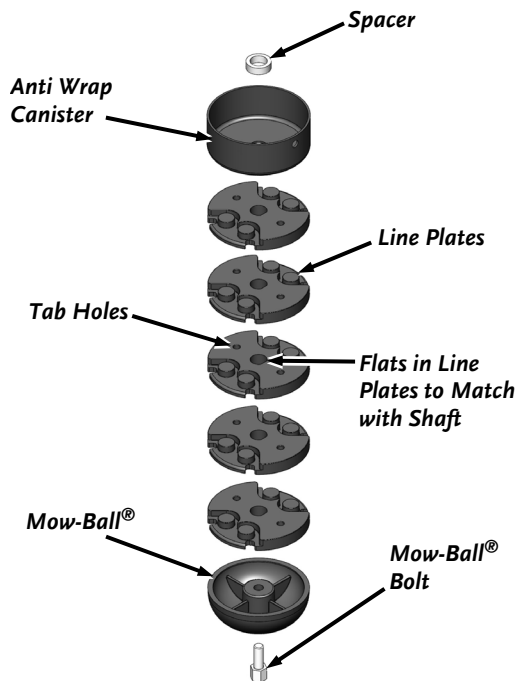

Figure 25
5. Slide the Line Plates, Anti Wrap Canister and Spacer off the Shaft (**Figure 25**).
Improper installation can cause damage to the trimmer bearings. Follow these directions carefully to protect your machine from damage. Reassemble the components in the order shown in **figure 25**.
1. Place the Spacer and Anti Wrap Canister (with the lip facing up) onto the Shaft (**Figure 25**).
The Belt must be installed on the inside of the guide Pin as shown in figure 25. If it is not installed on the inside the Trimmer Head will not function correctly.